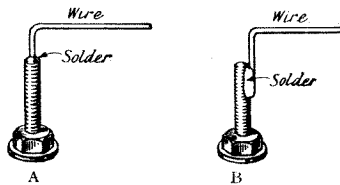

Fig. 6.—(a) First way of soldering wires. (b) Second way.
The first of these that we will take is the attachment of a wire to a valve leg or the shank of a terminal. To make matters easy tinned wire should always be used. When you are removing the insulation take care not to remove the tin at the same time. There are two ways of making this joint and the first of which is seen in Fig. 6 (A). Give the end of the screwed shank a rub with a fine file and touch it with fluxite. Then using a pretty hot iron put a blob of solder on to it. The reason for using a hot iron is that with it the solder flows and sticks instantly. If a coolish iron is used one may be some time in getting the solder to stick, which means that the terminal is heated up and the ebonite into which it passes is partly melted. When this happens the insulating properties of the ebonite are lessened.
The second method is shown in Fig. 6 (B). This has much to recommend it, for it is easy to do and makes a very secure job. Clean about one-third of an inch of the end of the shank with fine emery-paper and dress with fluxite. Lay the wire, also touched with fluxite, parallel with the shank and run